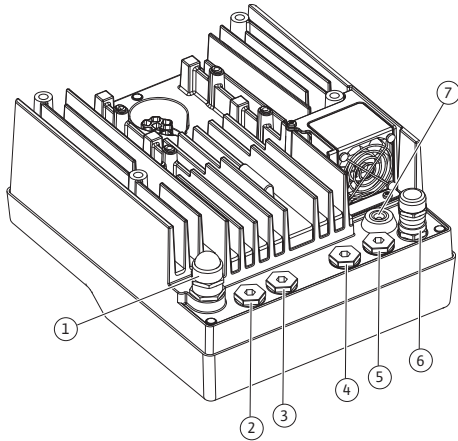

Fig. 18: Threaded cable glands/cable bushings
4. Guide the connection cable through the M25 threaded cable gland (Fig. 18, Item 1). Threaded cable gland with the specified torques.